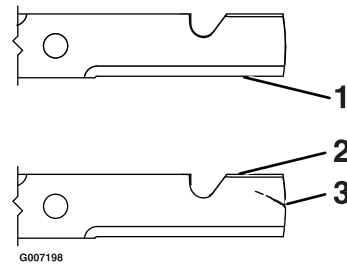

Figure 32
1. Inspect the cutting edges (Figure 32). If the edges are not sharp or have nicks, remove and sharpen the blades; refer to **Sharpening the Blades**.
2. Inspect the blades, especially the curved area. If you notice any damage, wear, or a slot forming in this area (item 3 in Figure 32), immediately install a new blade.